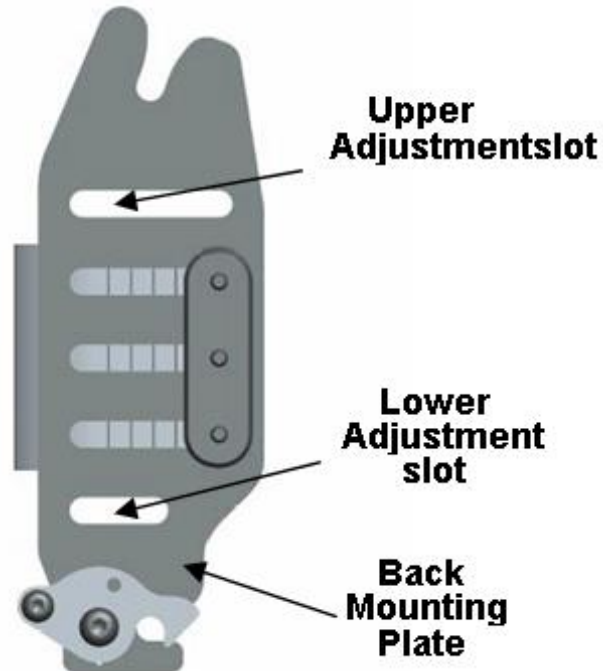

FIGURE 5
1. To Install the MAX Back onto the back mounting plates please refer to the Instructions and diagram (see Fig. 5 below).